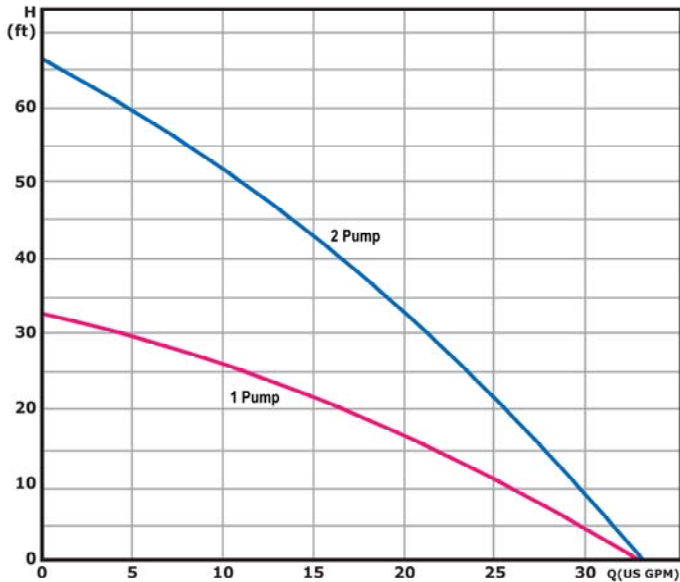

Fig. 1. Low Head Pump Center Flow Chart
Before installing the QT® Flow Center, check the flow charts and loop table against system flow and pressure drop characteristics to be sure the correct flow center is selected for the system. A one-pump flow center can accommodate flow for 3 1/2-ton units and smaller. A two-pump flow center can accommodate flow for 3 1/2- through 6-ton units. (See Fig. 1, 2) To ensure adequate flow, the selection must be made based on your specific system design.
1. By using the flow meter tool, monitor the flow (GPM) being pumped through the entire system. If the flow is not correct, check that the proper flow center has been selected for the application using pump curves (**See Fig. 1,2**). If the pump curve indicates the proper flow center was installed and the GPM is less than the system requires, an obstruction in the system is restricting flow.